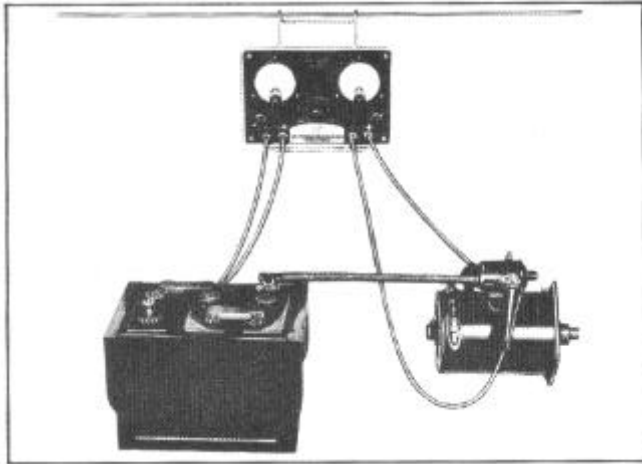

FIGURE 10
8. Connect negative lead to "BAT" terminal of starter solenoid switch and positive lead to starting motor terminal of starter solenoid switch, Figure 10.